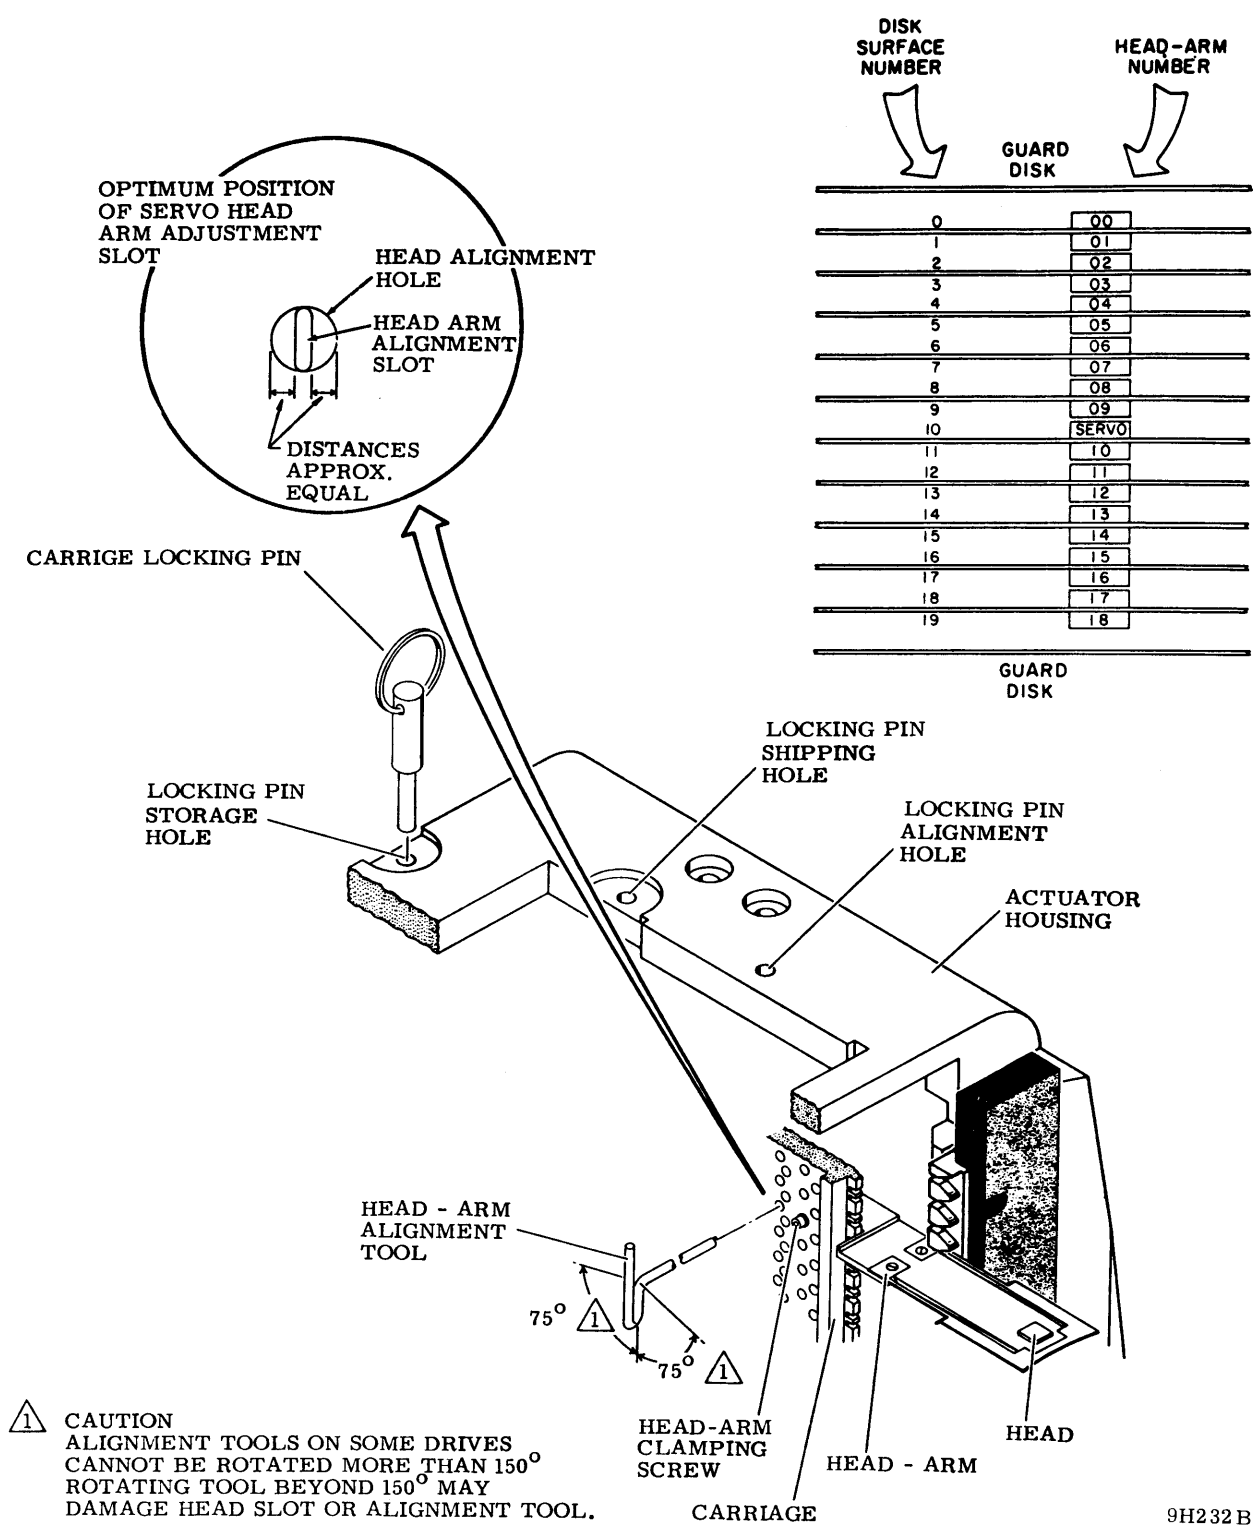

Figure 4-4. Head Arm Alignment
11. Command direct seek to cylinder 800 (400) and repeat steps 4 through 8.
12. Command direct seek to cylinder 491 (245).
13. Install carriage locking pin into track alignment hole (refer to figure 4-4) and repeat steps 4 through 8.
12. Install head alignment tool so that tool pin engages head-arm alignment slot (refer to figure 4-4).